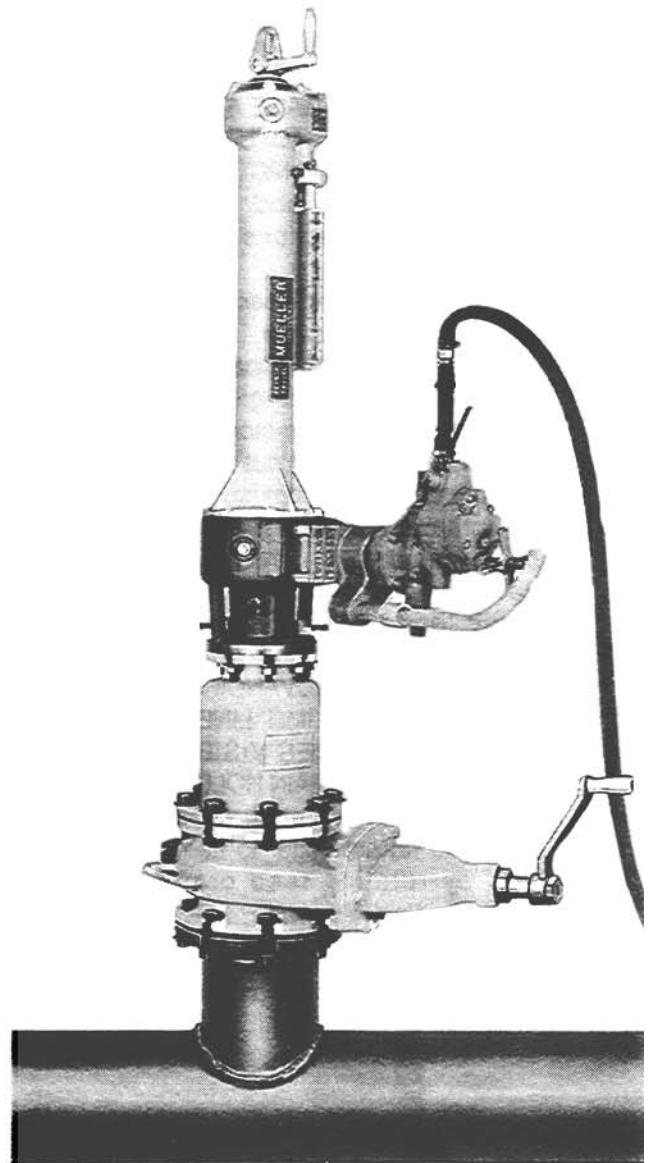

FIGURE 55
7. Place the machine (with adapter and drilling equipment assembled) in drilling position on gate valve and bolt adapter solidly to valve flange. **Fig. 55.** Check to be sure that the gasket is in good condition and in place.